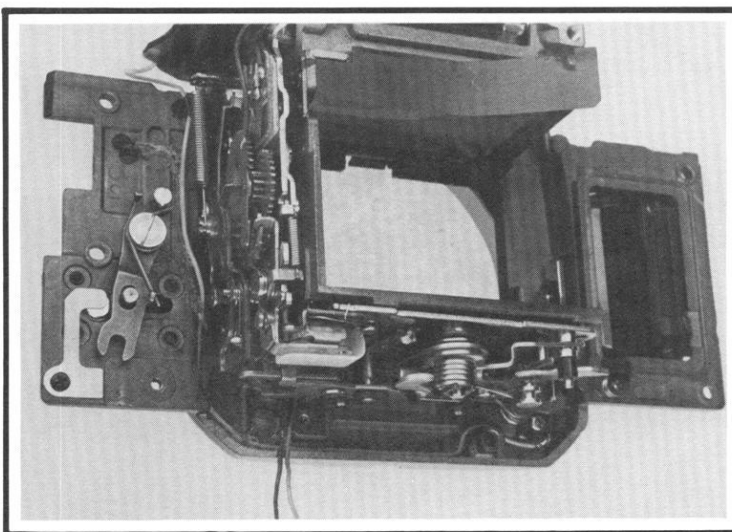

Figure 60
3. Seat the two units on the mirror housing, Fig. 60. The end of the diaphragm-control lever must pass through the slot in the side of the mirror housing, Fig. 55.